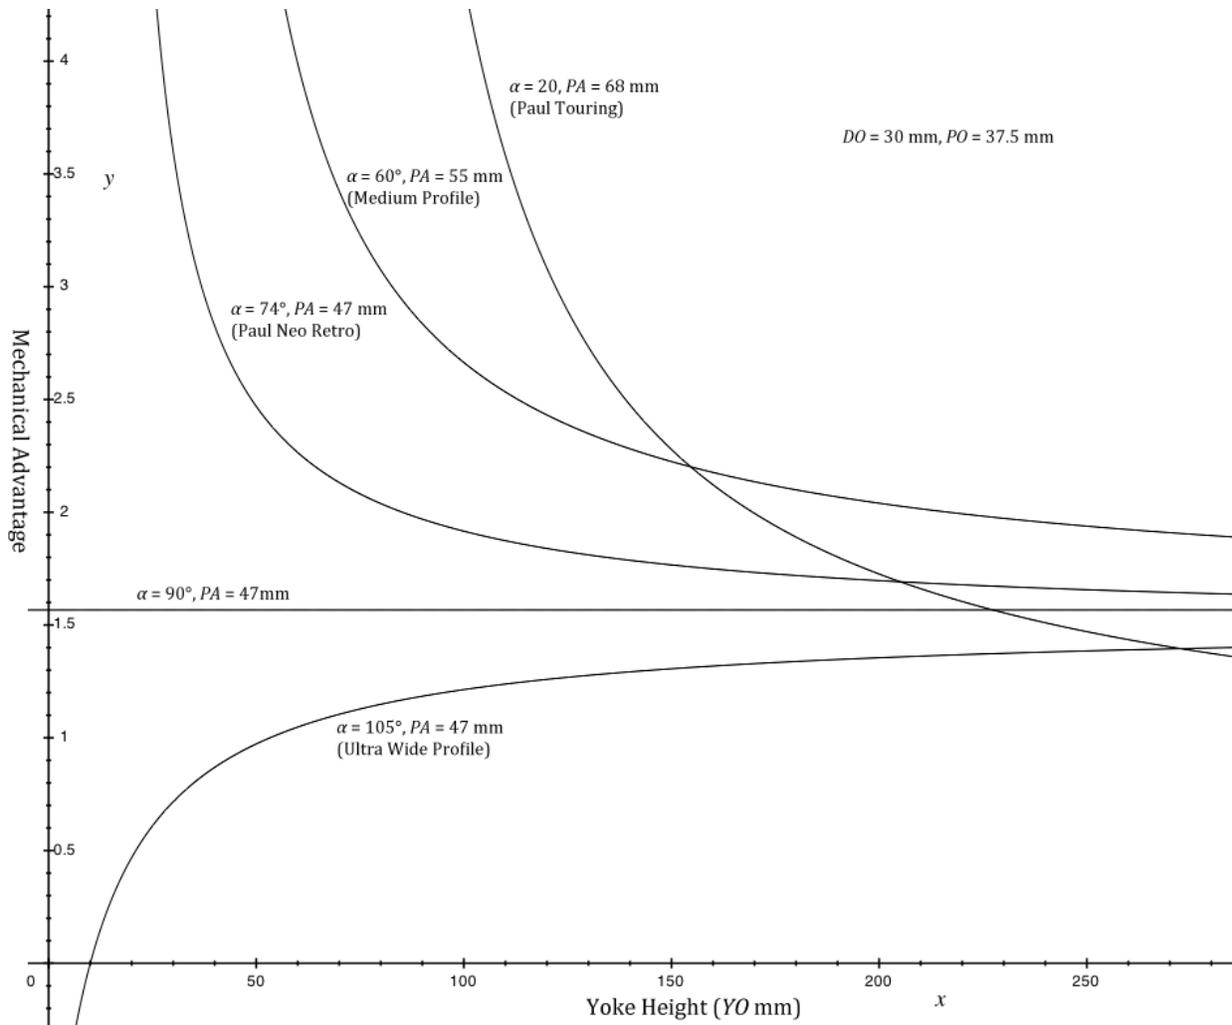

Figure 2: Mechanical Advantage as a Function of Yoke Height
In Figure 2⁸ you can see the mechanical advantage of five brakes (two real, three hypothetical) plotted as a function of yoke height (YO). In this example, I have measured my Thorn Raven Tour to provide the constants DO and PO . Most bikes will have similar values.
Looking at Figure 2, you can see that this generally results in a low MA, although one that should increase in MA very nicely as the brake approaches the rim. By adding a main brake cable pulley above the yoke, as you often see on these old bikes, MA could be effectively doubled.
We may, however, wish to see how the MA of a brake changes as it swings through its arc. For example, we may want to know whether to push the pads in or out on their studs if we have a fixed length straddle wire. Also, as the pads wear the effective cantilever angle decreases and the yoke height increases when the pads touch the rim, as they have farther to travel. In Figure 2, we were examining yoke height, but changing the straddle cable length to change the height of the yoke. Now we want to keep the straddle cable length the same and see how the MA varies as the yoke is pulled up by the lever and the arm swings.
For this figure, I have plotted the same brakes, dropping only the 90 degree cantilever. I've chosen a straddle cable length (YA) based on how these brakes are set up on my bike, or would likely be set up based on the MA curves shown in Figure 2. The line representing the Paul Touring is based on YA of 106 mm, which is how it is set up on the rear of my Thorn Raven Tour. This is about the shortest cable I can have with 2.0 tires and fenders. The faint gray line shows the hypothetical MA if the brake could swing through its entire arc. The darker line shows the more likely angle through which the brake will actually swing. There is a small tick on the curve where the pad will make contact with the rim on average. For example, the tick for the Paul Touring brakes appears above 20 degrees on the x axis, which is about where it makes contact with the rim on my bike, but with different pads or rims or pivot locations it could swing below 15 degrees.
In this case however, since the Paul's are not extremely low profile, I could just take small reduction in MA by increasing the yoke height (YO). Currently the straddle length (YA) of 106 mm translates into a yoke height (YO) of about 150 mm. Increasing this to 200 mm would reduce the MA of the brake close to that of the Neo Retro (see Figure 2), but also flatten out the above curve making its MA a little bit more linear for different rim and pad conditions. Or I could just leave it, as on my bike set up as it is, it has more MA than the Neo Retro under all conditions.